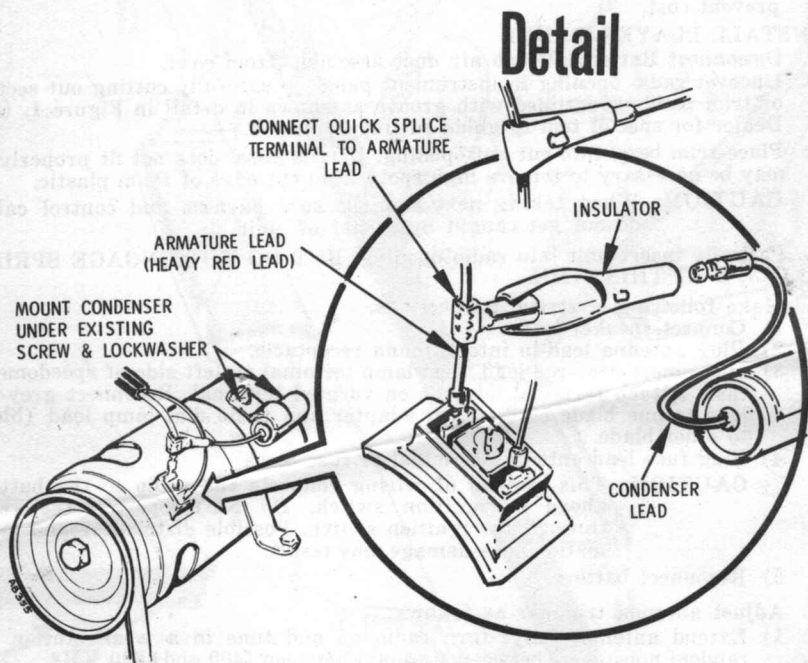

FIG. 2.
a. Mount generator condenser under screw and lockwasher as shown in Figure 2. Attach quick-splice terminal to armature lead (heavy red lead) and crimp. Slip insulator over quick-splice terminal and close flap. (See detail.) Connect condenser lead to quick-splice terminal.